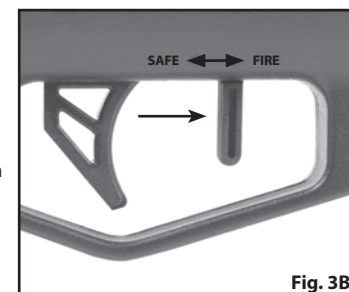

Fig. 3B
2. The Safety lever is in the FIRE position and "OFF SAFE" when the Safety lever is in the forward position "FIRE", and it cannot move forward any further (Fig. 3B).